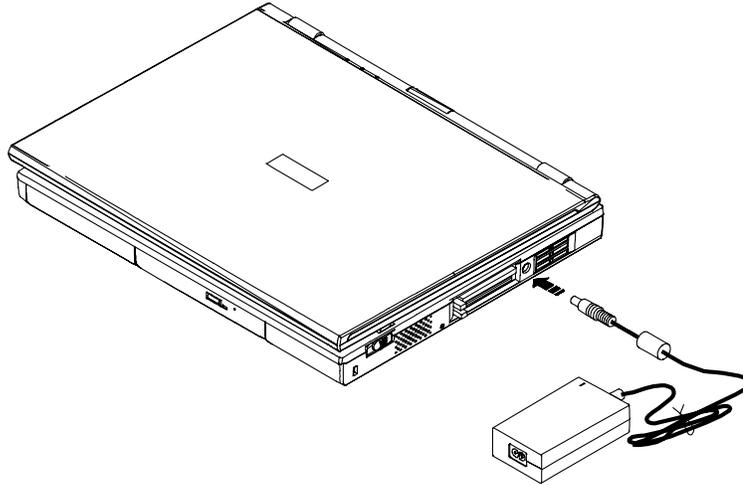

Figure 5-5: Connecting the AC Adapter to the Notebook's AC port
1. Insert the end of the AC Adapter output cable into the Notebook's AC port. Please refer to *Figure 5-5*.
2. Connect the power cable to the port on the AC Adapter module. Please refer to *Figure 5-5*.